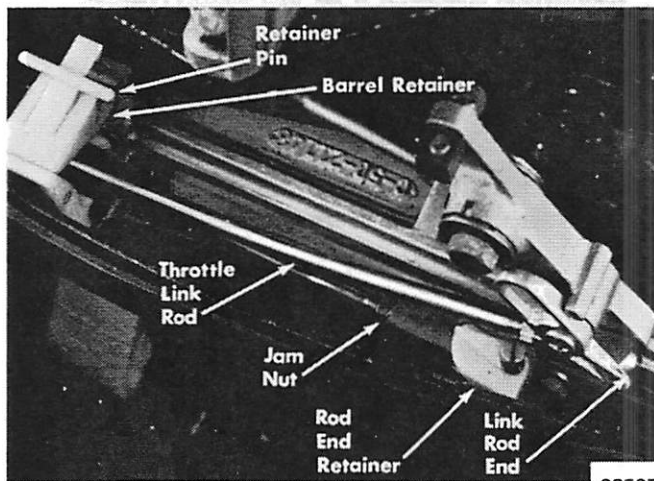

Figure 9. Throttle Link Rod Installed
11. With vertical lever in this position and handle grip positioned as outlined in step No. 9, adjust throttle link rod end, as required, to place rod end over peg on vertical lever. (Figure 9)
12. Position rod end retainer over link rod end. (Figure 9)
*NOTE: Barrel retainer (Figure 9) is not required when steering handle is installed. Barrel retainer may be removed by tapping out retainer pin. (Figure 9)*